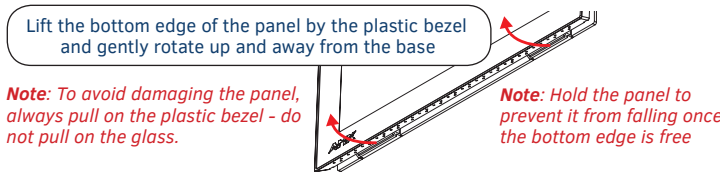

FIG. 7 MD-702/BACKBOX ASSEMBLY (RELEASING THE BOTTOM EDGE OF THE PANEL)
2. Grasp the bottom of the panel and pull gently outward until the side of the panel is free of the snap. Use your other hand to stabilize the front of the touch panel (FIG. 7):